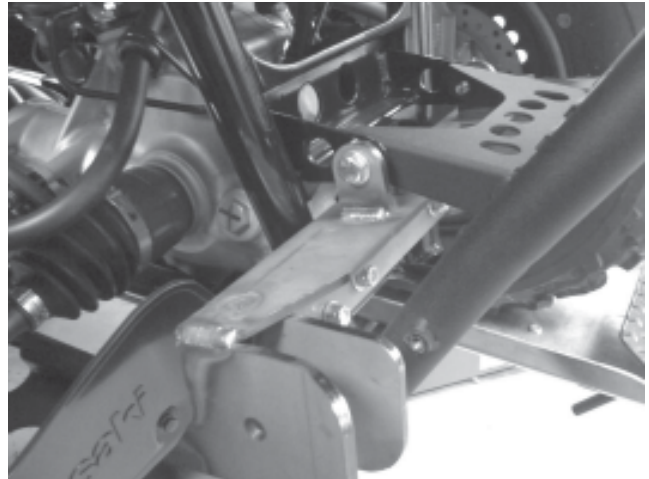

Figure 6
5. Loosely secure the Plow Mount to the flanges on front frame tubes (Figure 6). These are the same tabs used to secure the winch mount to the front bumper.